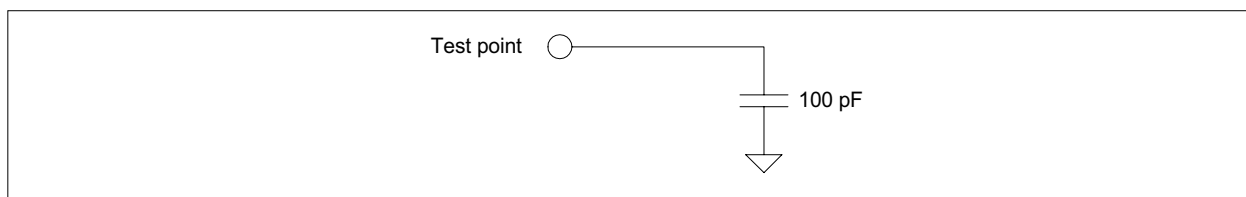

Figure 8-1. Load Circuit for Output Delay Time (1)
2. For output delay time (1), connect the load circuit as shown in Figure 8-1.